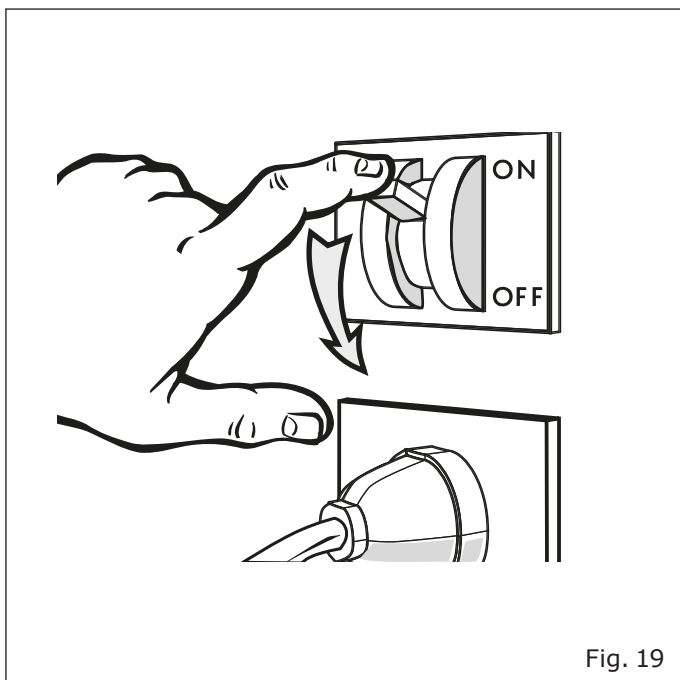

Fig. 19
- Disconnect the power supply to the cabinet using the wall-mounted main switch-disconnector ("Fig. 19").